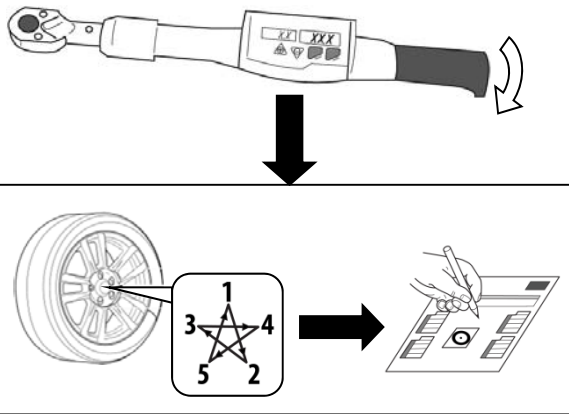

Fig. 4-6
- (i) With the vehicle still on the lift, use a digital torque wrench to measure the torque of each lug nut/lock and record it on the Torque Audit Sheet (Fig. 4-6). (PPO installation only. Does not apply to DIO installation).